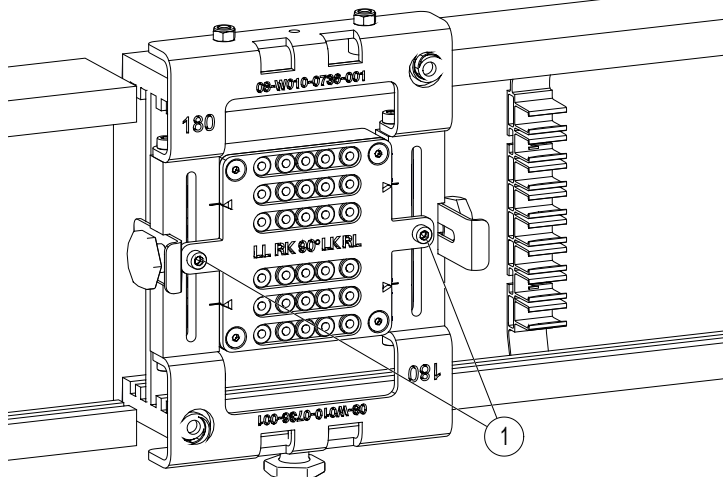

Fig. 37: Loosen the outer holes on the drill bushing block
- Loosen the two outer cylinder screws DIN912 M5x16 (Item 1) with an Allen wrench (2.5) (see Fig. 37).